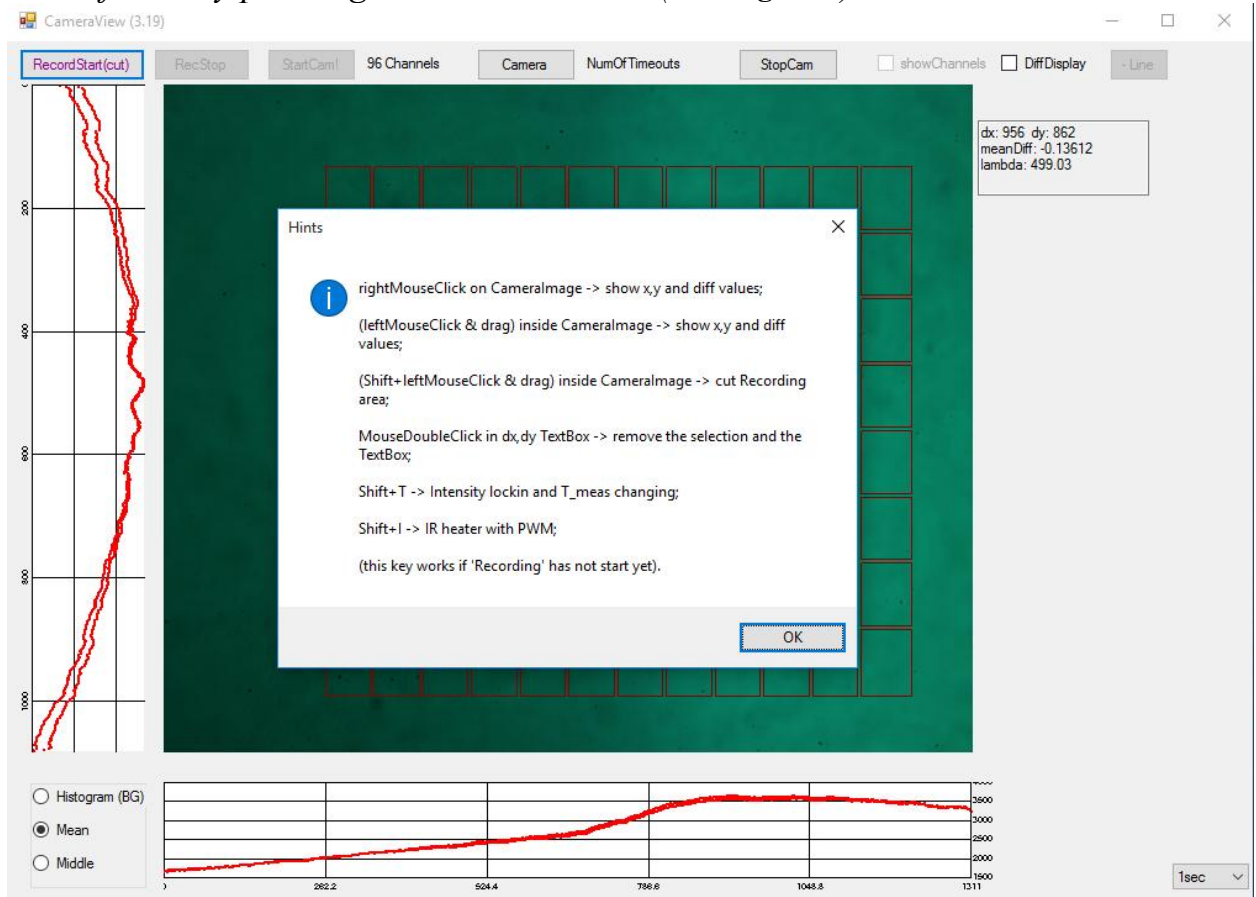

Figure 8. Shortcuts hints (F1) in CameraView window.
*In the CameraView window, you can make **rightMouseClicked** on the image to obtain a $\lambda(x,y)$ value in this particular point and select Recording area (inside the image) by **Shift + leftMouseClicked & drag**. Other options may be found by pressing **F1** in this window (see **Figure 8**).*